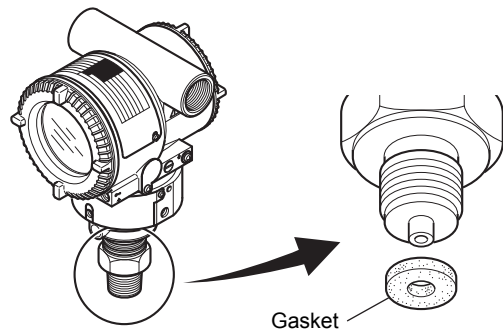

Figure 4.2 Gasketing
- The user should prepare the mating gasket for the transmitters with Process connection code 8 and 9. See Figure 4.2.